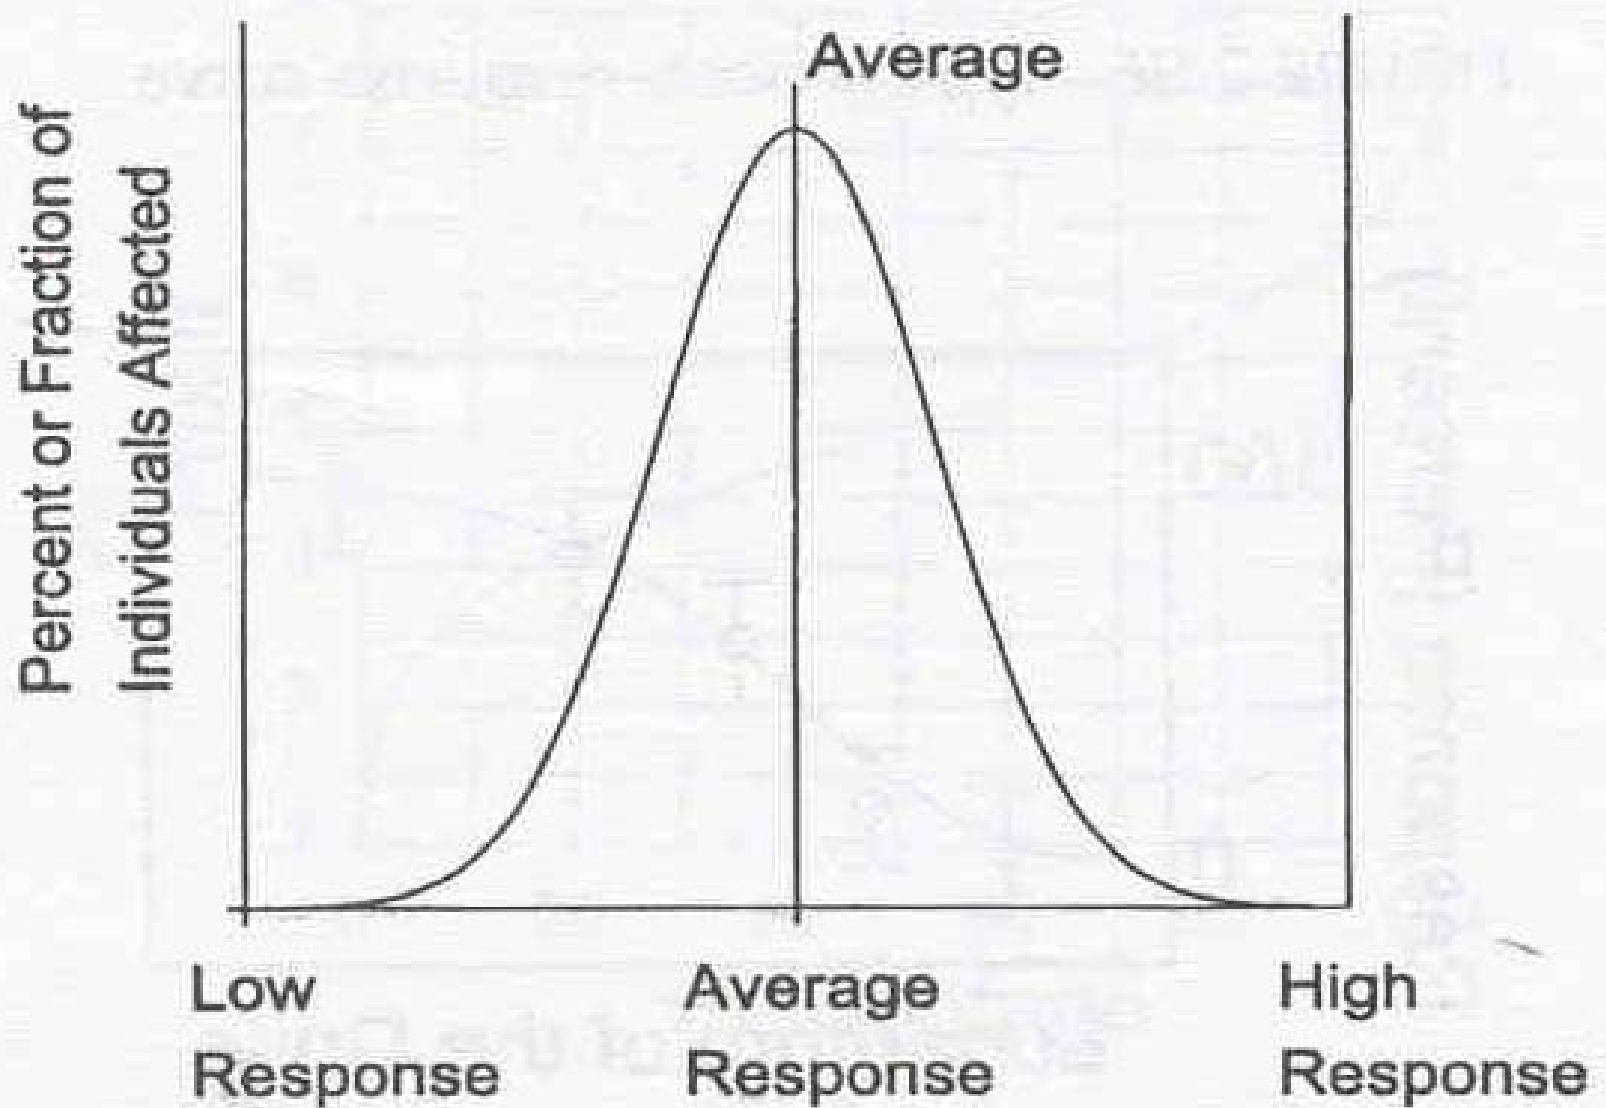

FIGURE 2.85. Typical Gaussian or bell-shaped curve.
- Figure 2.85 explain the relation percent of individual affected and response